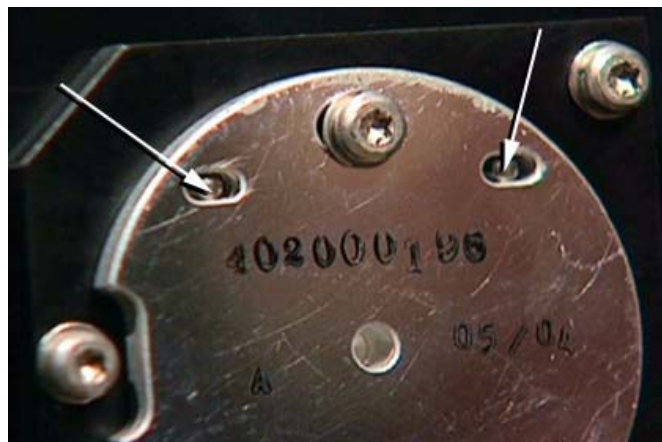

Figure 7 - Centering Alignment Pins in Mirror Slots
4. Insert the M1 mirror into the lamp housing centering the alignment pins in the mirror slots (Figure 7).